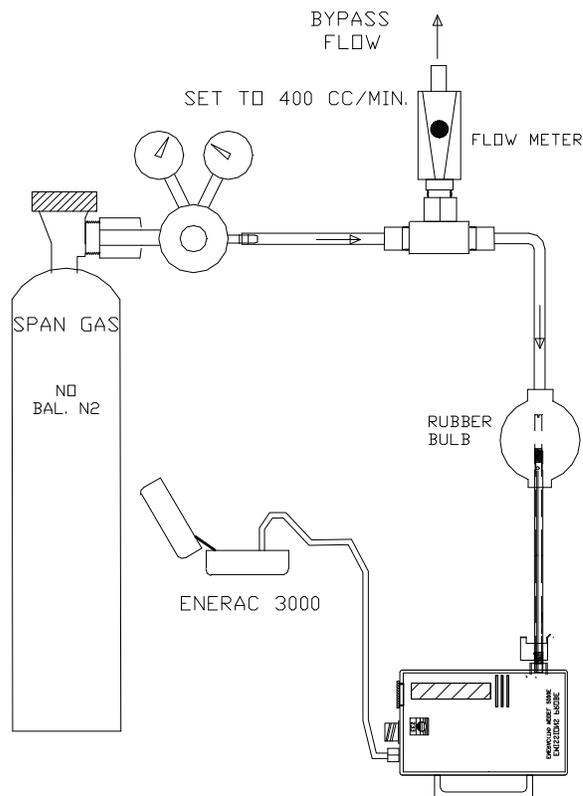

FIGURE 12
1. We suggest that you set up your calibration apparatus as shown in fig.12.